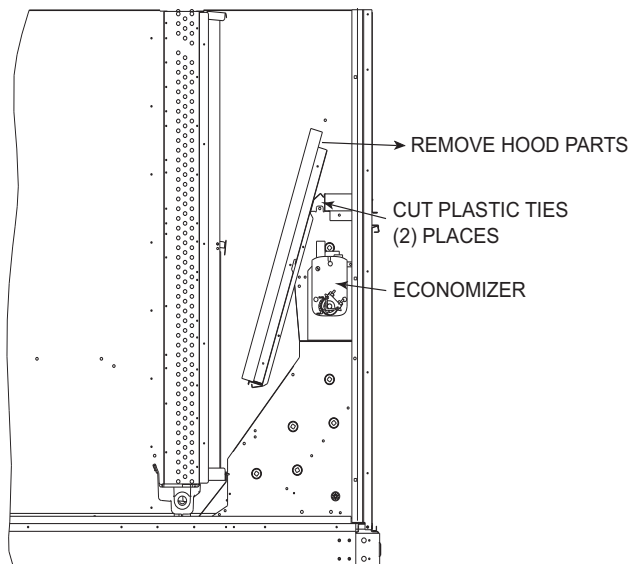

Fig. 13 — Economizer Hood Package Location
Locate the carton containing the outside air hood parts; see Fig. 13 and 14. Do not remove carton until unit has been rigged and located in final position.
3. Locate and cut the two plastic tie-wraps, being careful to not damage any wiring. (See Fig. 13.)